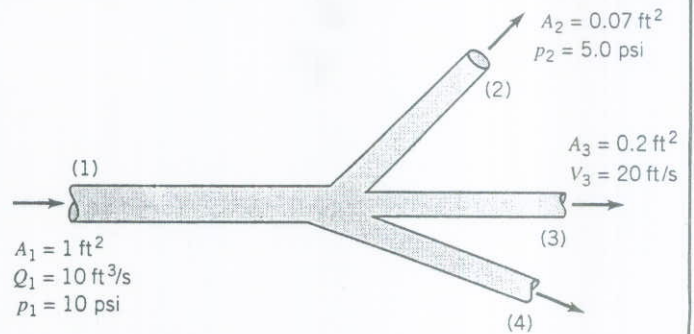

FIGURE P3.93
3.93 Water flows through the horizontal branching pipe shown in Fig. P3.93 at a rate of  $10 \text{ ft}^3/\text{s}$ . If viscous effects are negligible, determine the water speed at section (2), the pressure at section (3), and the flowrate at section (4).